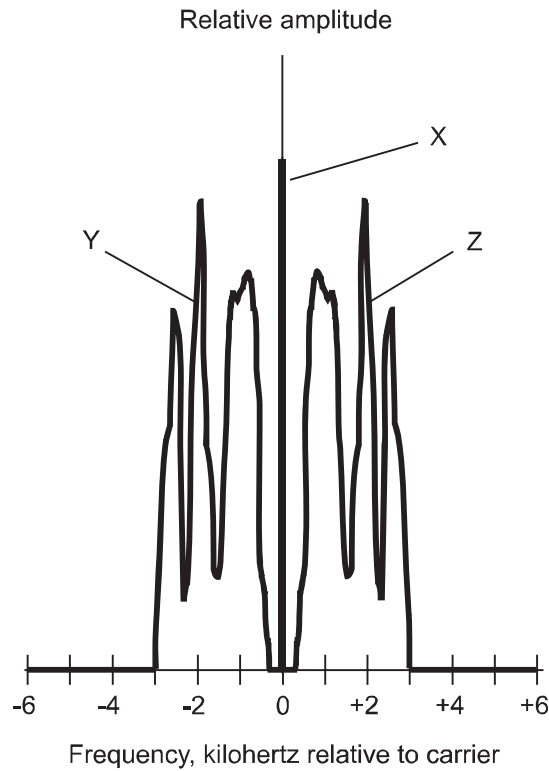

Fig. Test3-1. Illustration for Part Three Test Questions 2 through 5.
2. Figure Test3-1 is most likely a spectral diagram of
3. In Fig. Test3-1, X indicates
4. In Fig. Test3-1, Y indicates
5. In Fig. Test3-1, Z indicates